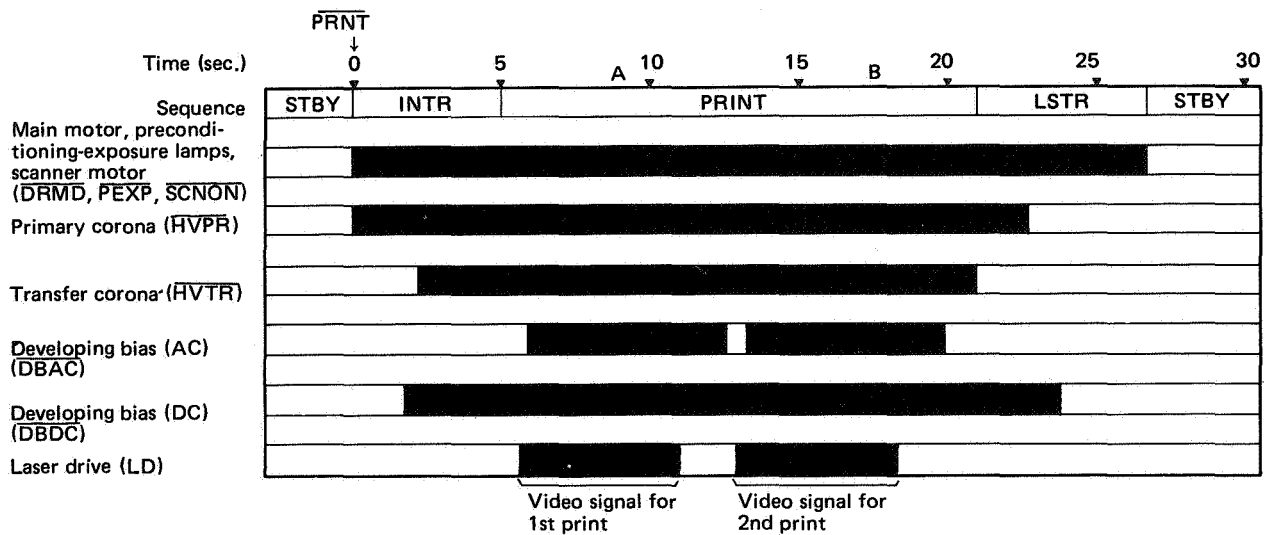

Figure 2-10 Using cassette feed for two consecutive A4 prints
In the example shown in Figure 2-10, the DC controller switches off the transfer corona, primary corona, and developing bias (DC) after image transfer for the second print. After the second print has been delivered, the DC controller turns off the main motor, scanner motor, and preconditioning exposure lamps. The leftover charges on the drum are removed. (This lengthens drum life and prevents uneven images.)
While each print is being made, the DC controller checks whether the video controller has transmitted a TRUE \overline{PRNT} command (at A and B in Figure 2-10), indicating that another print is to be made. If a TRUE \overline{PRNT} command is not received, the DC controller waits for a TRUE \overline{PRNT} for a certain period (about 5 seconds). If a TRUE \overline{PRNT} command is not received within that period, LSTR begins.